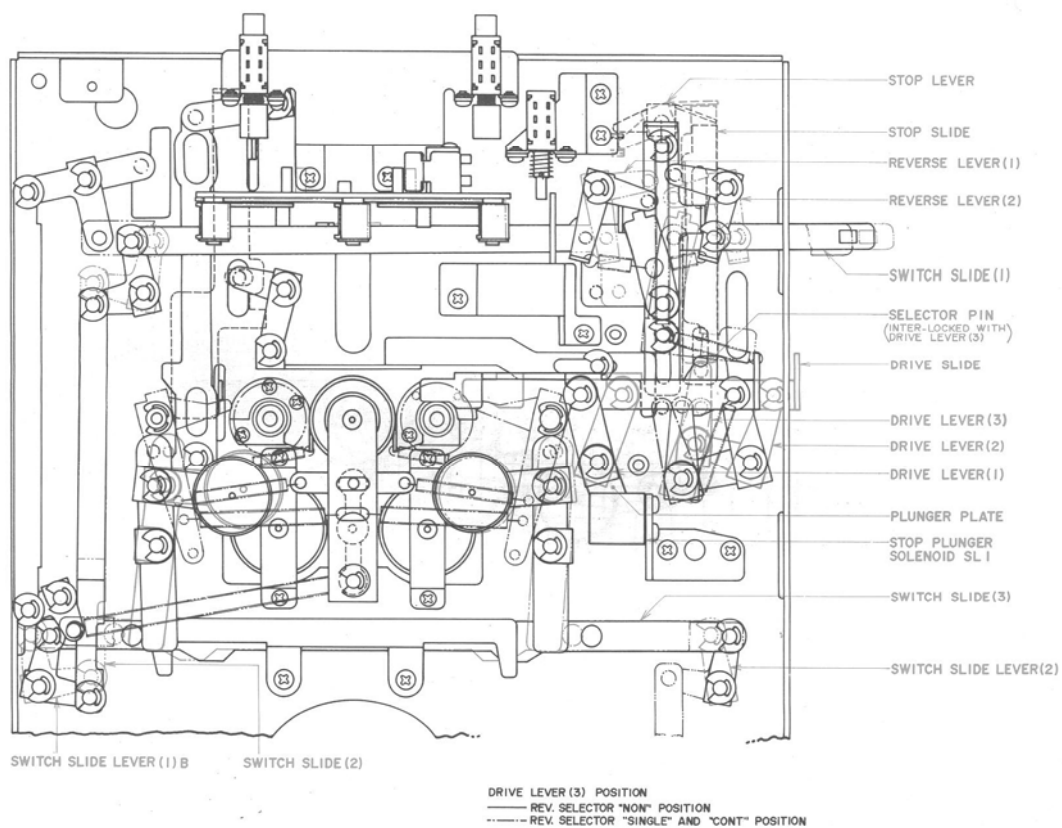
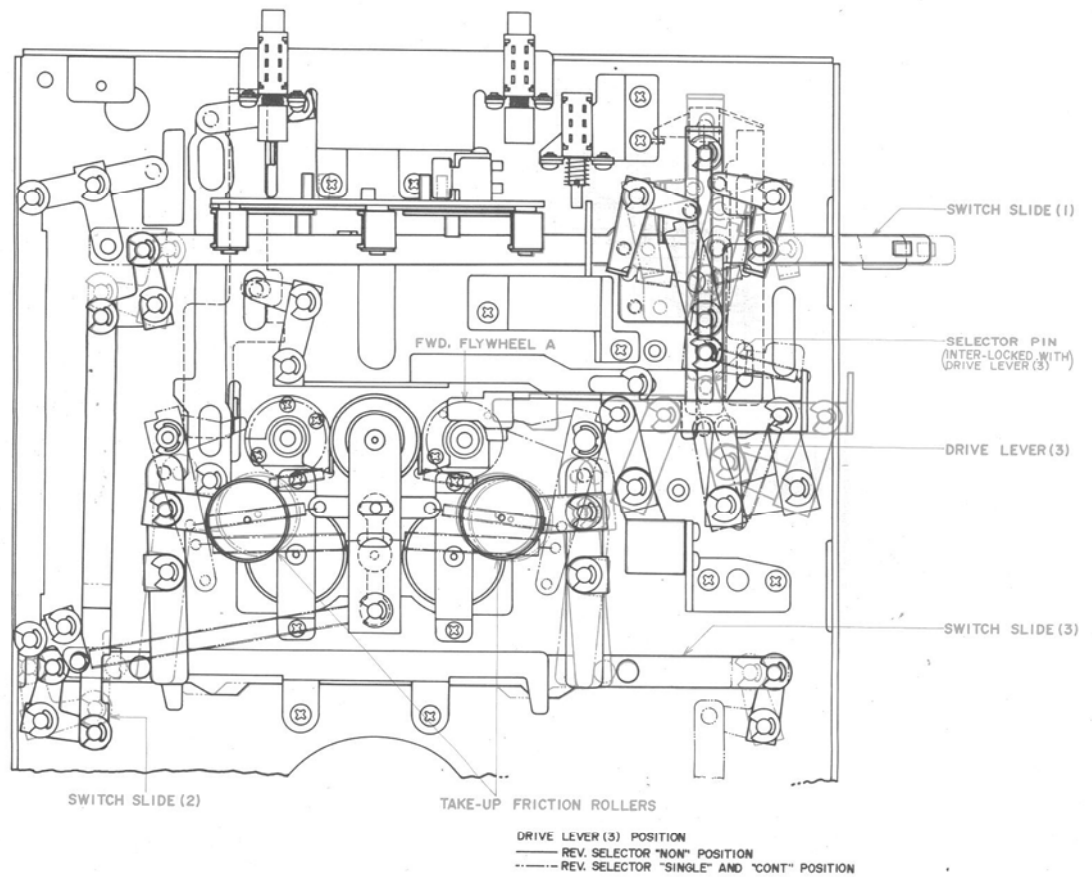

Fig. 31 Reverse Selector : NON → From REV to STOP Operation
Fig. 33 Reverse Selector : CONT $\leftrightarrow$ From REV to FWD Operation
(Refer to Figs. 31 and 37)
- b) At this time, as shown in Fig. 31 drive lever (3) must move further to the right than in the case of FWD playback. (This is because as shown by the reverse side, Fig. 31, the head plate slide and mode selector operation by means of the switch is the result of this movement to the right). This operation is for the purpose of not allowing drive lever (3) selector pin to depress the reverse slide.
- d) When this happens, drive levers (2) and (3) which are interlocked with the drive slide work as shown in Fig. 31 and drive lever (3) selector pin kicks the stop slide and the kicked stop slide depresses the stop lever, causing the Keyboard Block to release and the machine to release and the machine to enter STOP mode from REV mode.
- c) When set to REV recording or playback mode, drive lever (3) selector pin is brought to and stabilized directly above the stop slide by means of the Mode Selector (Refer to Fig. 31).
- d) When REV tape travel ends, drive lever (3) selector pin depresses the stop slide and the Keyboard Block is released.
- 4) REV → FWD → REV (Refer to Fig. 33)
- a) When REV mode was effected from FWD mode as shown in Fig. 33, drive lever (3) selector pin moved to directly above the reverse slide. At the end of REV mode, when continuous kick operation begins the selector pin depresses the reverse slide and switch slides and switch slides (1), (2), and (3) change to FWD position.
* Movement of slide switches (1), (2), and (3) is indicated by the ---line in Fig. 33.
- b) Switch slides (1), (2) and (3) operate the head plate slide and the head is lowered, thus effecting FWD mode.